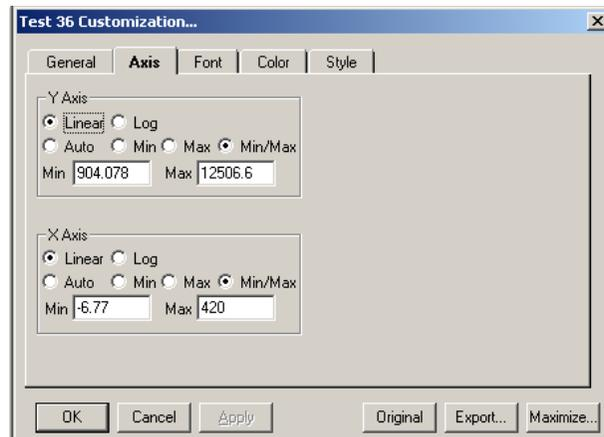

Figure 48 Customization Dialog Box—Axis Tab
- **Axis Tab**—Use the Axis tab to change your X axis and Y axis values and specify whether to display them as linear or log. If you select Log, use “Auto” or ensure that the “Min” value is greater than zero. See Figure 48.